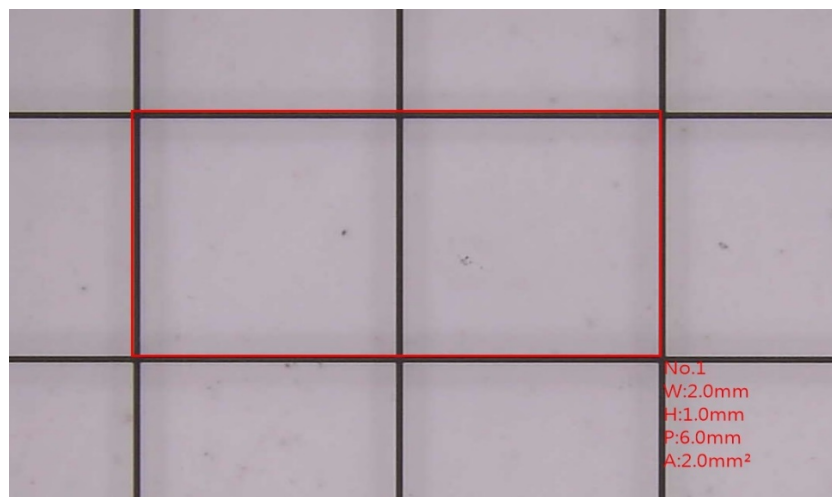

Fig.5-6 Rectangle measurement
(2) Rectangle : The object is quadrilateral that can apply  tool as Fig. 5-6. The Rectangle tool can measure and show rectangular circumference ( $P=6.0\text{ mm}$ ), Horizontal length ( $W=2.0\text{mm}$ ), Vertical length ( $H=1.0\text{ mm}$ ), Rectangular area ( $A=2.0\text{ mm}^2$ ).